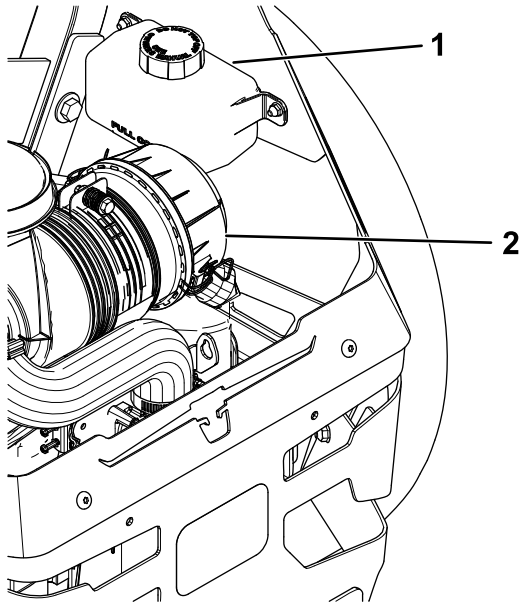

Figure 65
2. Check expansion reservoir and if necessary add Toro® HYPR-OIL™ 500 hydraulic fluid to the FULL COLD line (Figure 65).